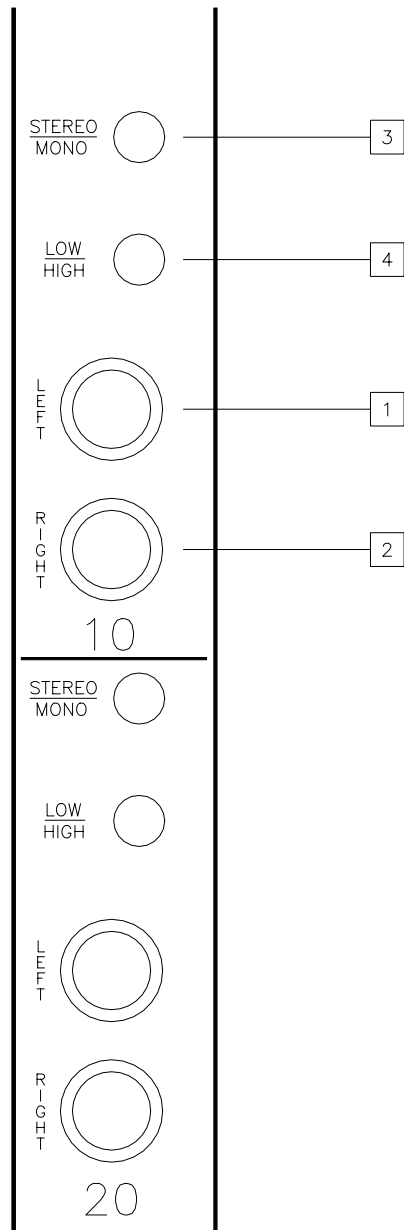

Figure 6. Input Channel Connectors and Switches
*Refer to Figure 6 for location of items 1 thru 4*